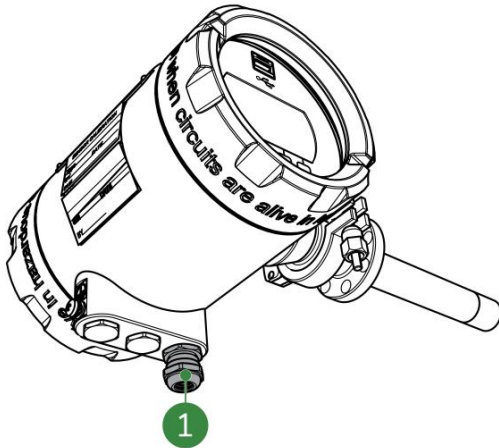

Figure 8-12: 4–20 mA cable
2. Remove the 4–20 mA cable or the combined cable (Figure 8-12, pos. 1).